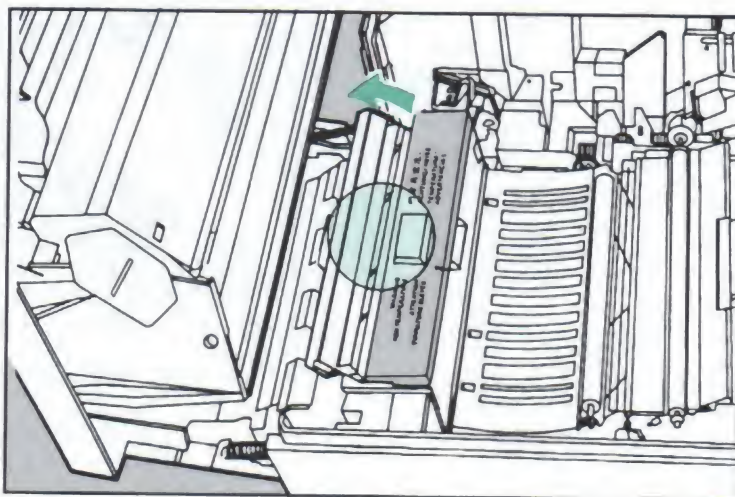

Figure 7-5.
6. If you cannot find any paper jammed in the printer, the plastic counterweight for the paper jam sensor may not be in the vertical position, causing a false paper jam message to appear in the display. To correct this problem, first open the back side of the fuser assembly (refer to Figure 7-5). Locate the plastic counterweight. (From the rear of the printer, look inside the area you have just opened). Then make sure the plastic counterweight is vertical.